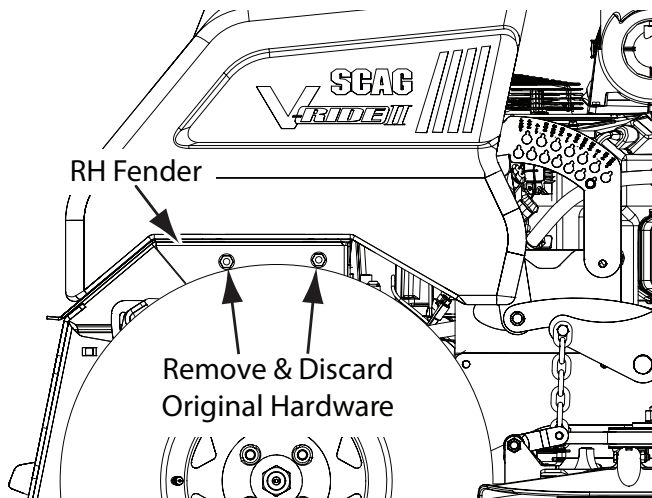

Figure 3-54. Identify and Remove Hardware
- Using the lever support bracket as a guide, identify two (2) 3/8-16 x 3/4" carriage bolts and two (2) 3/8-16 serrated flange nuts used to secure the RH fender to the mower frame. Remove and discard this hardware. See Figure 3-54